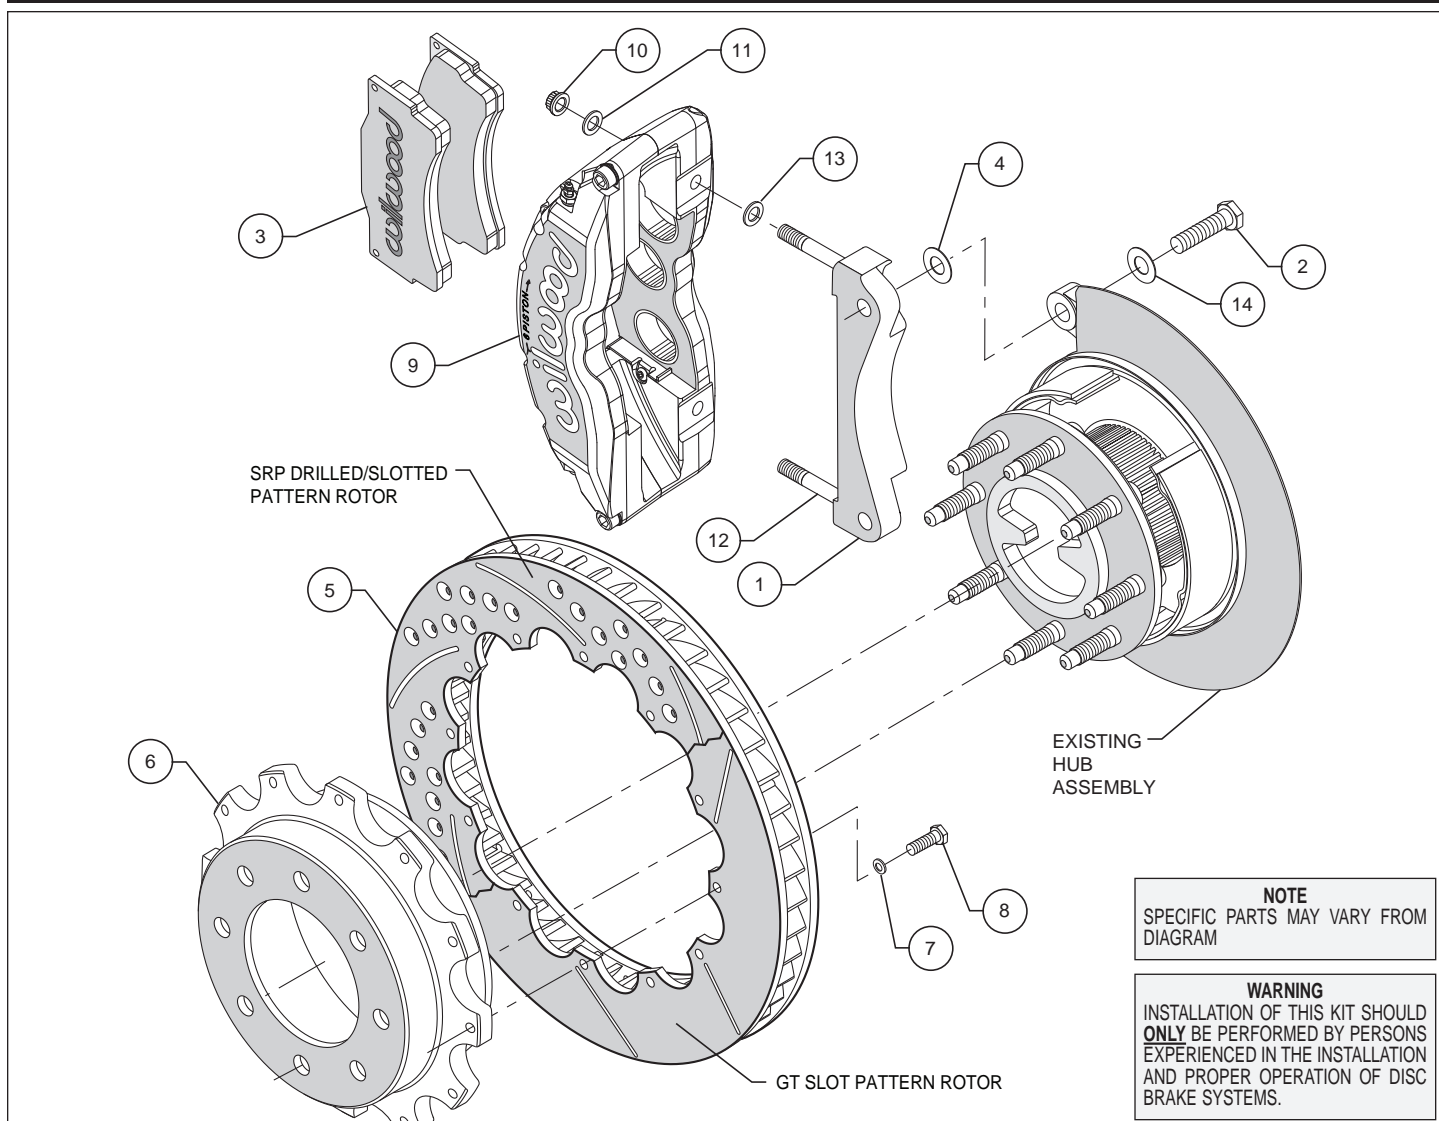
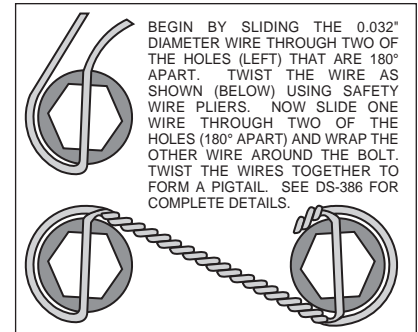

Figure 1. Typical Installation Configuration
Figure 3. Safety Wire Diagram
- The caliper mount bracket assembly (1) should be installed first with clean, dry threads on the mounting bolts (2). Install the bracket by sliding bolt (2) through washer (14) from the rear side of the hub through the OEM caliper mounting bracket ears, then through an additional shim washer (4) and into the bracket (1). The bracket must tighten squarely against the outboard side of the caliper mount bosses on the upright. Inspect for interference from casting irregularities, machining ridges, burrs, etc. Use one shim (4) between the bracket and upright during initial trial fitting. Later, after the caliper, pad, and rotor alignment have been checked, and any necessary shims have been put in place, the mounting bolt threads (2) should be coated with red *Loctite*® 271 and torqued to 95 ft-lbs.
- Attach the rotor (5) to the hat (6) using bolts (8) and washers (7) as shown in Figure 1. Using an alternating sequence torque bolts to 25 ft-lbs. Safety wire the bolts using standard 0.032 inch diameter stainless steel safety wire as shown in Figure 3. Please refer to Wilwood's data sheet DS-386 (available at [www.wilwood.com/Pdf/DataSheets/ds386.pdf](http://www.wilwood.com/Pdf/DataSheets/ds386.pdf)) for complete safety wire installation instructions.
- Lubricate caliper mounting studs and nuts with lightweight oil. Install one shim (13) over each stud (12) on the radial mount bracket (1). Slide the caliper (9) in place over the studs and rotor and install the washers (11) [up to 4 may be required on each side to keep the lock nut from bottoming out on the stud], and lock nut (10) to hold the caliper in place. The caliper bleed screws should be pointing up. Snug the lock nuts (10) and check that the rotor (5) is centered in the caliper (9). Add or subtract .029" shims (4) as necessary between the caliper mount bracket and the caliper mount bosses on the upright assembly to center the caliper.
- Remove the two caliper center bridge pad retainer bolts, nuts, and tubes from the caliper. Slide the brake pads (3) into place. They should install easily without interference. Check that the outside radius of the brake pad is aligned with the outside diameter radius of the rotor face. Add or subtract shims (13) between the caliper and mount bracket to gain the proper alignment. Reinstall the two center bridge pad retainer tubes, bolts, and lock nuts. The locknut should be snug without play in the bolt or tube. Be cautious not to over tighten.
- Once all clearances have been checked, remove the wheel, caliper and rotor from the axle flange. Secure the caliper mounting bracket (1) to the axle flange body with bolts (2) while coating the threads with red *Loctite*® 271. Torque the bolts to 75 ft-lbs. Reinstall the rotor and again use several lug nuts to hold it in place. Reinstall the caliper, torque the caliper nuts (10) to 47 ft-lbs.